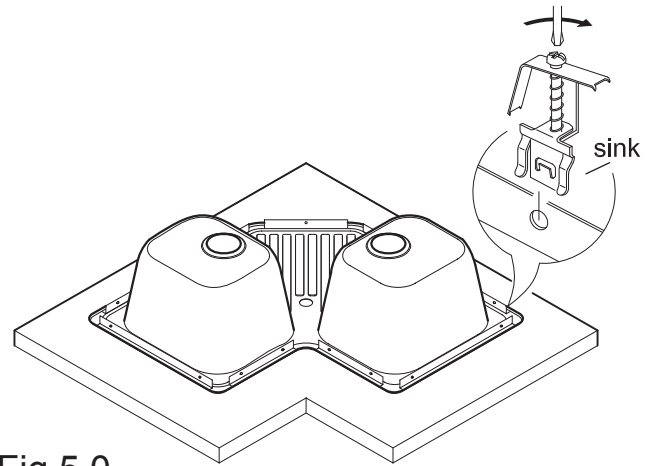

Fig 5.0
6. Fit the metal clips (C) into the holes in the sink under frame as shown in Fig 5.0.